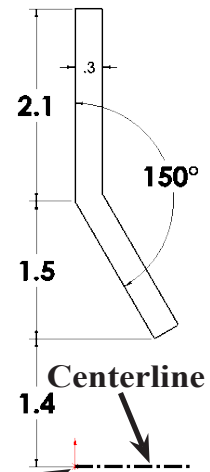

Fig. 8
Step 1. Click **Centerline**  in the **Line flyout**  (S) on the Sketch toolbar.
Step 2. Starting from the Origin , draw a centerline across the bottom of the sketch extending the centerline out past the sketch, **Fig. 8**.